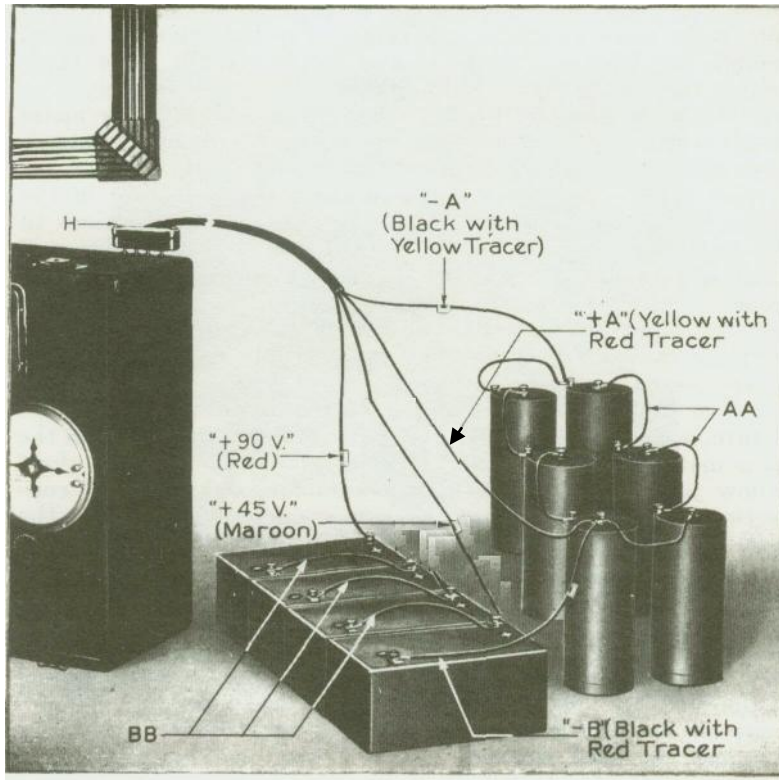

Fig. 3. Connections of Batteries for Non-Portable Use
*Installing Batteries for Van-Portable Use.* If it is desired to use large capacity batteries for non-portable use, they should be connected as shown in Fig. 3.
The six "A" batteries are connected in two parallel groups of three each, the three batteries in series being connected in the same manner as was described for portable use. The six short yellow jumpers AA (Fig. 3) are used for making these connections. The four "I}" batteries are connected in series in the same manner as those for portable use, using the three long red jumper connectors BB. The lead marked "—A" (black with yellow tracer) is connected to the outside terminal of the "A" batteries. Connect the lead marked "+A" (yellow with red tracer) to the center terminals of the "A" battery. Connect the lead marked "—B" (black with red tracer) to the "—" terminal of the first "B" battery. Connect the lead marked "+22 ½ V" (maroon) to the "+22 ½ V" terminal of the first "B" battery. Connect the lead marked "+90V" (red) to the "+22 ½ V" terminal of the fourth "B" battery.